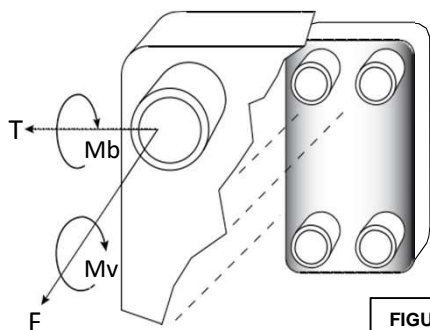

FIGURE 2
8. The nozzle connections are designed for normal torque force and damage may occur if over tightened. The use of pipe sealant materials compatible with the system fluids is recommended for threaded type connections. Connection load limits should be observed and are shown in Figure 2, Table 2, and Table 3.